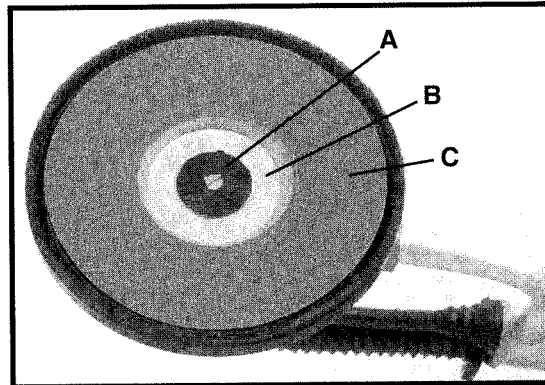
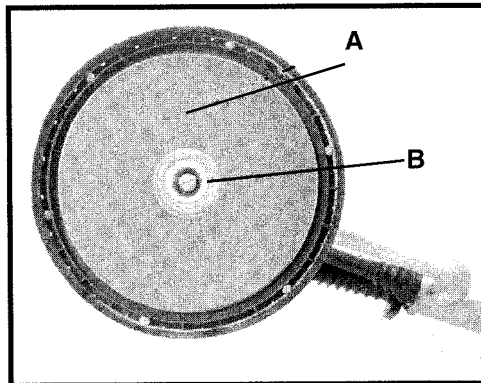

Fig. 9
Fig. 10
2. Rotate the pad retaining nut (A) Fig. 9 counterclockwise and remove.
3. Lift off the large metal washer (B) Fig. 9, and the abrasive pad (C) Fig. 9.
NOTE: When the abrasive pad (C) Fig. 9 is lifted off the Sander, the abrasive back-up disc (A) Fig. 10 is exposed. Please note that this back-up disc is also covered with an abrasive material., and is used ONLY to prevent “slippage” between the back-up disc and the foam-backed abrasive pad. it is NOT suitable for use as a sanding abrasive.
Position the new abrasive pad to the back-up disc, and center the hole of the disc on the hub (B) Fig. 10 of the back-up disc.
5. Position the large metal washer (B) Fig. 9, and the retaining nut (A) Fig. 9, to the Sander.